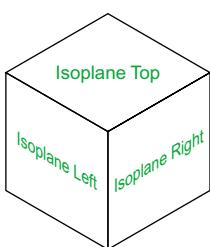
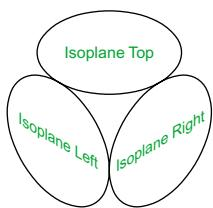

Fig. 7.18 The three isoplanes
Fig. 7.19 The three isocircles
2. There are three isometric angles – **Isoplane Top**, **Isoplane Left** and **Isoplane Right**. These can be set by pressing either the **F5** function key or the **Ctrl** and **E** keys. Repeated pressing of either of these ‘toggles’ between the three settings. Fig. 7.18 is an isometric view showing the three isometric planes.
And the isocircle appears. Its isoplane position is determined by which of the isoplanes is in operation at the time the isocircle was formed. **Fig. 7.19** shows these three isoplanes containing isocircles.
3. With **Line**, construct the outline of the top of the model (**Fig. 7.19**) working to the dimensions given in **Fig. 7.18**.